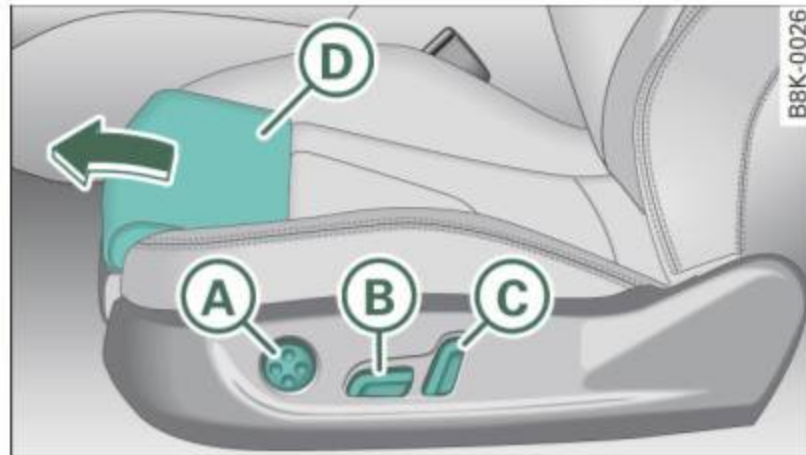

Fig. 70 Front seat: Controls for seat adjustment
- Push the switch (B) forward or backward ⇒ fig. 70.